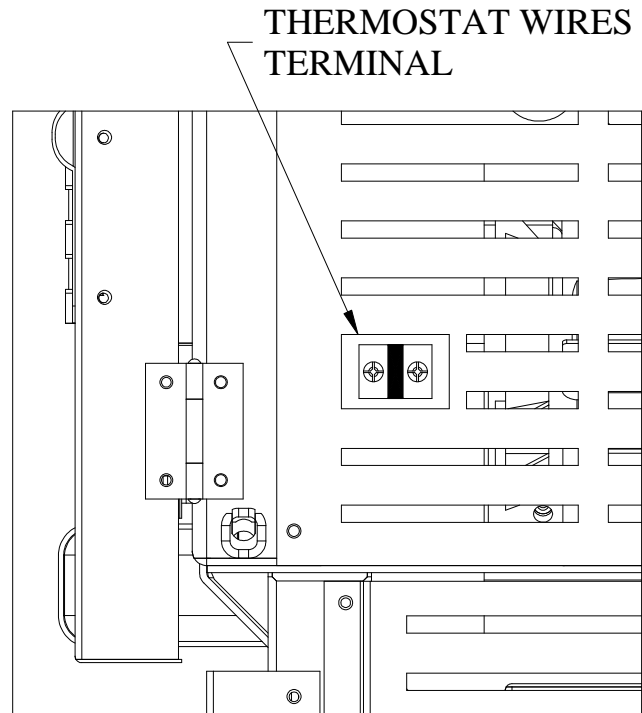

FIGURE 16
- Connect two thermostat wires to the terminal block located on the lower right side of the back of the stove. To do so, loosen the two screws and insert the wires in the terminals. Tighten the two screws. (See figure 16)